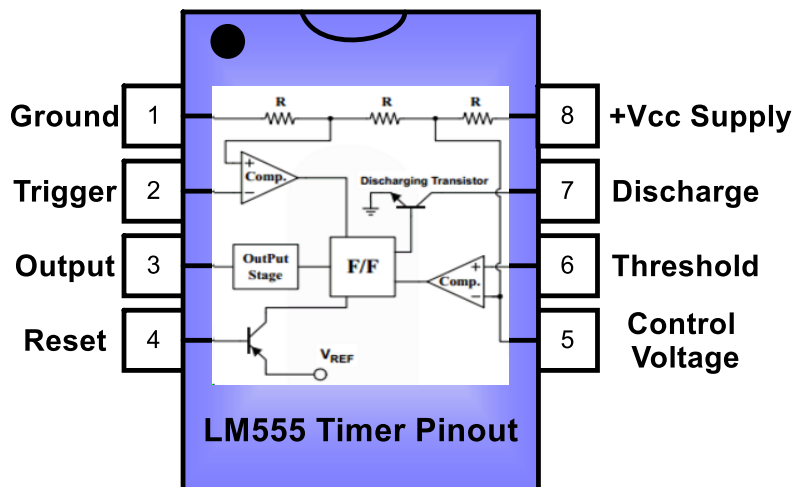
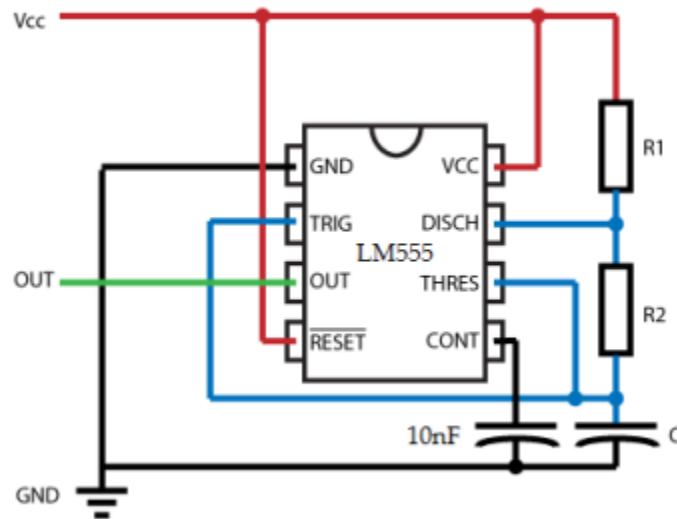

Fig 7: LM555 timer pinout
Fig 8: LM555 in astable mode
LM555 is among the devices for generating clock signal or time delays. The pin layout of this IC can be seen in Fig 7.
This IC operates in three modes: Monostable, Bistable and Astable. The astable mode that we use in this experiment allows the timer to operate as an oscillator that outputs a continuous rectangular pulse of a required frequency. For astable operation, we need two resistors and one capacitor to design a circuit that operates at the frequency required. The timing during which the output is either high or low is determined by these externally connected resistors and capacitor. Note that the durations of the low and high states may be different. Fig. 8 illustrates an LM555 configuration for astable mode operation.
The external capacitor (C) charges through $R1 + R2$ and discharges through $R2$. Thus, the duty cycle and frequency may be precisely set by selecting the right combination of resistances and capacitance. According to Fig 7 and Fig 8, the charge time (output high) is given by $T1 = 0.693 \times (R1 + R2) \times C$. The discharge time (output low) by: $T2 = 0.693 \times R2 \times C$. Thus, the total time period of square wave is $T = T1 + T2 = 0.693 \times (R1 + 2R2) \times C$. Consequently, the frequency of oscillation is $= 1/T$. The duty cycle also can be computed by $D = \frac{R1 + R2}{R1 + 2R2}$.
1. Implement the LM555 in astable mode using the wiring diagram from Fig 8 and observe the output on oscilloscope. Measure the clock frequency and the duty cycle.